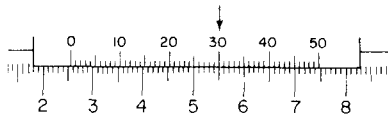

Fig. 17
41. The reading of the vernier caliper shown in Fig. 17 is